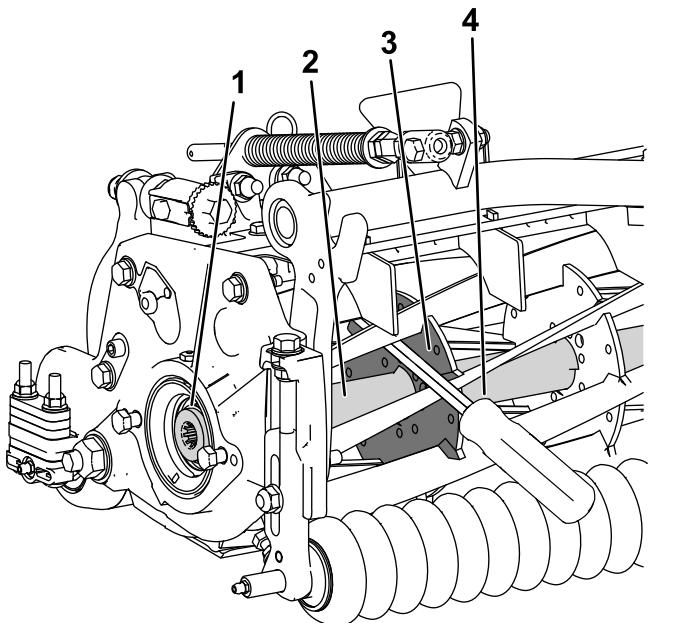

Figure 43
1. Insert a long-handled pry bar (recommended 3/8 x 12 inches with screwdriver handle) through the front of the cutting reel, closest to the side of the cutting unit that you will be torquing (Figure 43).
2. Place the pry bar against the weld side of the internal cutting reel reinforcement (Figure 43).